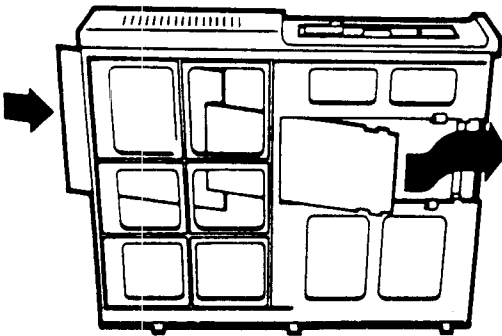

fig. 1
- 3** Position the **Racore Extender Card** in the **Extender Card Slot** as shown. (fig. 1)